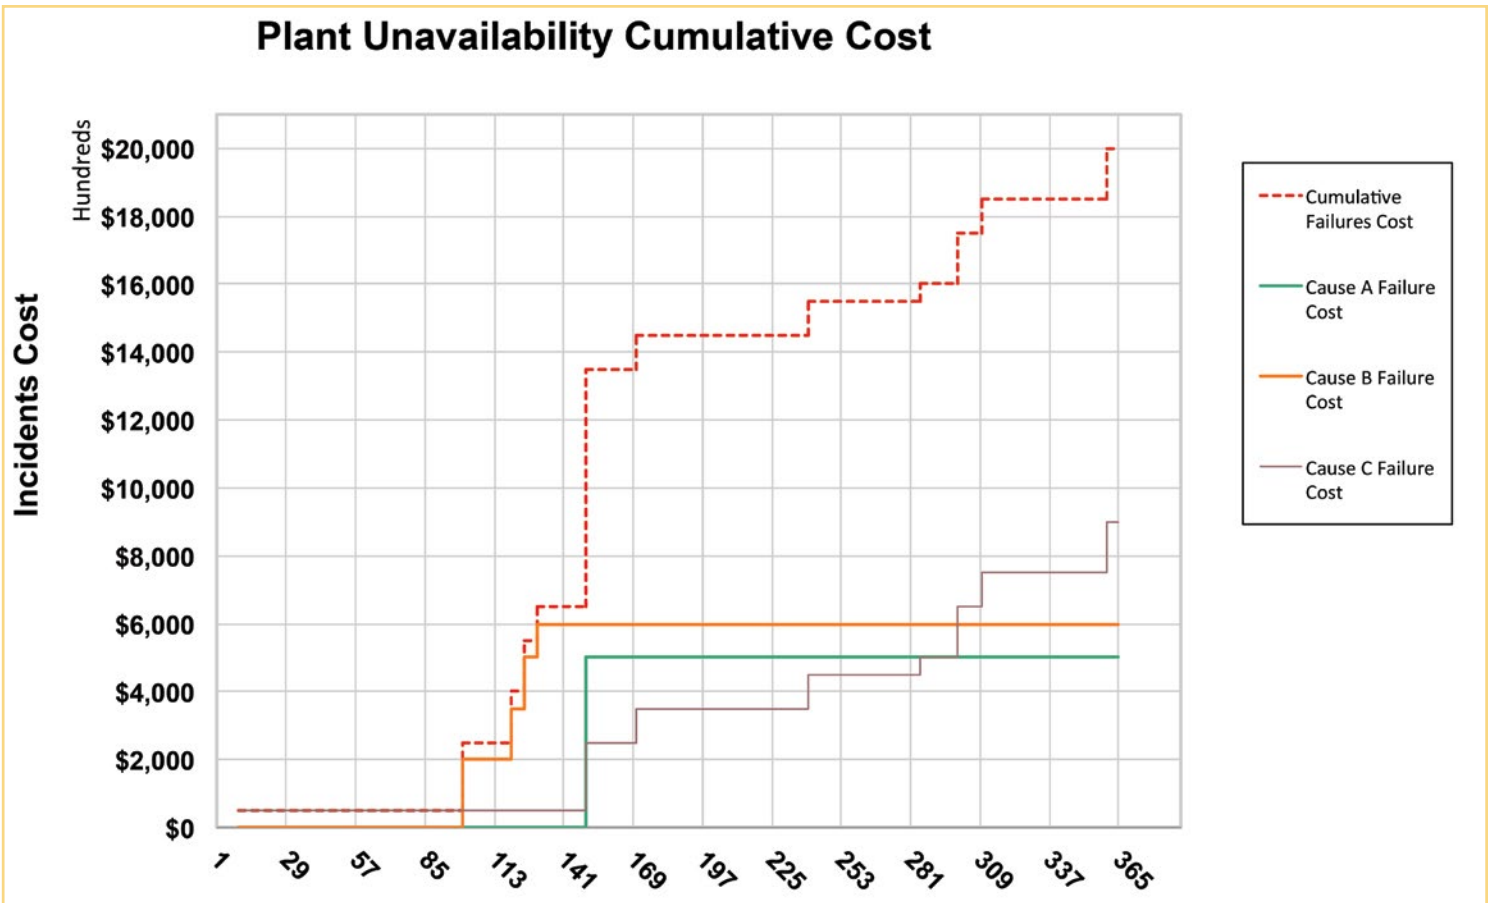
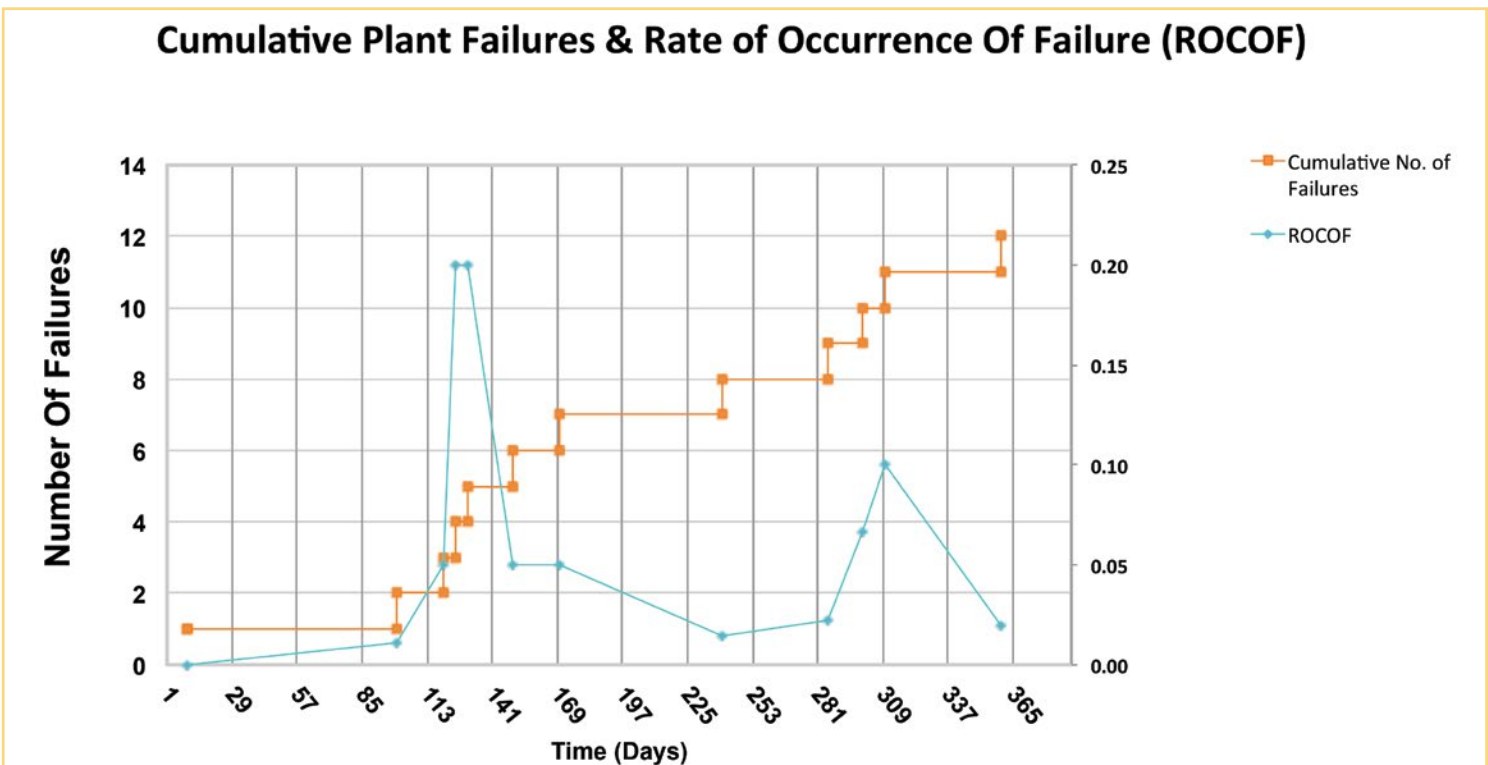

Figure 2: Plant A failure causes cumulative cost plot
Figure 3: Plant A cumulative plant failures and rate of occurrence of failure (ROCOF)
A cumulative failures cost plot can be constructed based on the data available in Table 1. Figure 2 shows the overall cumulative failures cost, as
well as each cause contribution in the cost. Figure 3 shows the cumulative failures and rate of occurrence of failure (ROCOF). It is important to observe these two observations from Figures 2 and 3:
1. The cumulative cost plot in Figure 2 shows the failures cost spiked on day number 141 due to one failure related to Cause A, which did not add any failures cost after that. Cause B added failures cost in the period from day number 90 to 120 and stopped adding any cost thereafter. Cause C, on the other hand, started adding failures cost after day number 140 and kept adding cost thereafter periodically.
2. The cumulative failures plot in Figure 3 rises quickly in the period from 100 days to 150 days, which can be seen by a sharp spike in the recurrence rate (ROCOF) plotted in the same figure. This means system reliability degraded quickly in that period and needs to be investigated. After that, system reliability improves in the period from 150 days to 240 days, which is reflected by a decreasing ROCOF. System reliability degraded again from 240 days to 310 days and finally improved thereafter. Figure 3 gives a clear, instant trend of system reliability.
By using Figure 2, one can direct the focus and efforts to the area where more cost impact is coming from, while using Figure 3 will give a clear instant trend of system reliability.